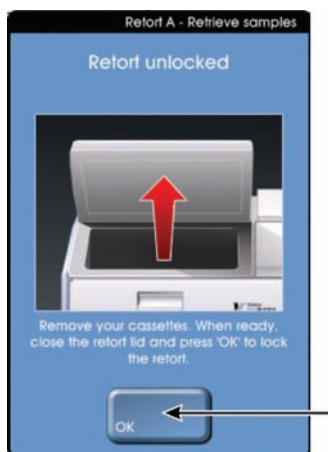

Figure 82: Retort unlocked with OK button
4. When the “Retrieve samples” dialog box appears, open the retort lid and add or remove cassettes as required (see Figure 82).
5. When you have finished adding or removing cassettes, close the retort lid and select the **OK** button (see Figure 82).